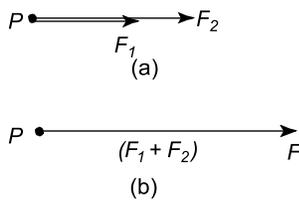

Figure 4.5
- (a) For forces acting in the same direction and having the same line of action, the single force having the same effect as both of the forces, called the **resultant force** or just the **resultant**, is the arithmetic sum of the separate forces. Forces of  $F_1$  and  $F_2$  acting at point  $P$ , as shown in Figure 4.5(a), have exactly the same effect on point  $P$  as force  $F$  shown in Figure 4.5(b), where  $F = F_1 + F_2$  and acts in the same direction as  $F_1$  and  $F_2$ . Thus  $F$  is the resultant of  $F_1$  and  $F_2$